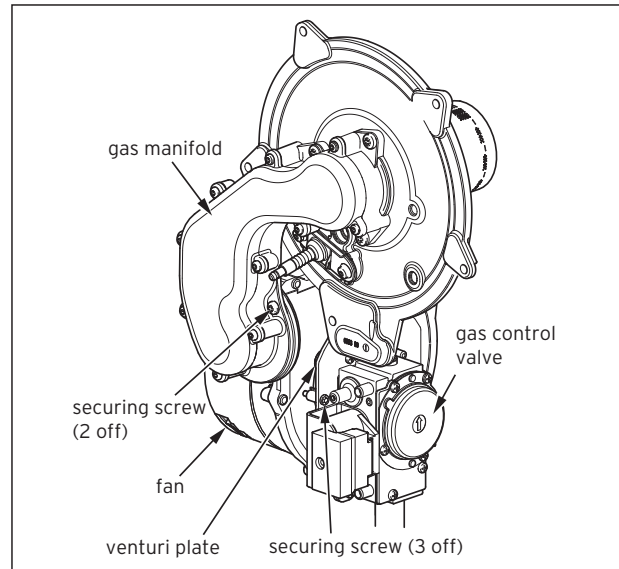

Fig. 11.1 Fan removal
- Remove the two screws securing the fan to the gas manifold, see fig 11.1.